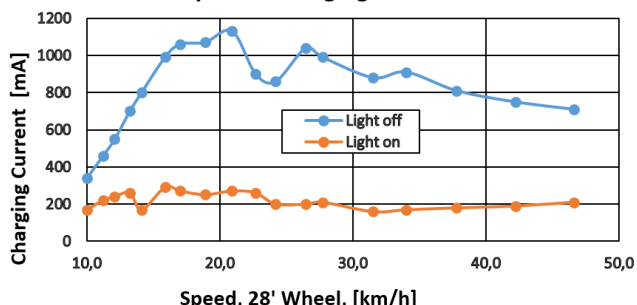

Bild 3: Charging current from dynamo (Shimano) vs. speed, light on and off, for a typical Shimano hub dynamo
The harvester incorporates a very powerful hub dynamo charging-unit (AC) optimized for speeds from 15 to 35km/h (0.9A typically between 18 ... 35km/h, see fig. 3). The dynamo input includes a safety circuit to prevent from overload (high voltage during no load).
- 3) Average DC current into battery, see fig. 3, typical hub dynamo, 6V/3W, bike light off
The harvester needs more than $6V_{eff}$ for charging the batteries. If the light is off a typical hub dynamo provides such a level. If the bike lights are on the voltage level is reduced below $6V_{eff}$. In that case the harvester is not able to pull full current from dynamo (see fig. 3) as the lamps are using most of the power. You can however supply your smartphone from the battery.